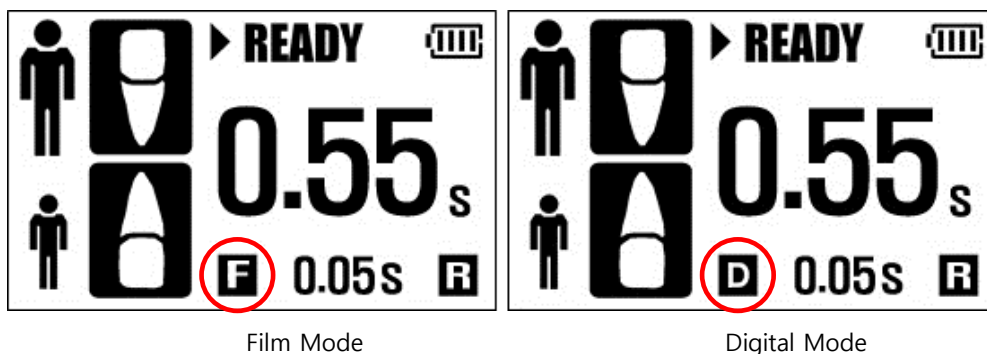

Figure 7.5 Mode Setting
- After selecting either 'Film' or 'Digital' and saving the settings, 'F'(Film) or 'D'(Digital) will appear on the main control display (see Figure 7.5).